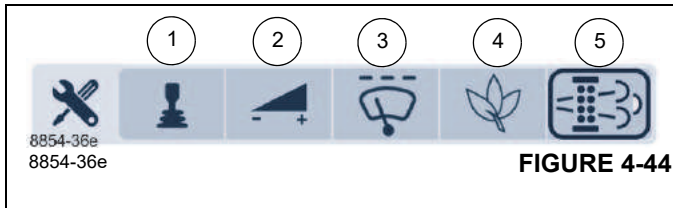

FIGURE 4-44
The Tools Group Menu is made up of the Icons shown in Figure 4-44 that allows the operator to select sub-menus to adjust parameters, set display options, and control functions.
Access a Tools Group Function Screen (Figure 4-44) by doing one of the following:
Using the Jog Dial (5), (Figure 4-22) select one of the Tools Group Function Icons as shown in (Figure 4-44). When selected, the Icon will turn orange. Then press the Jog Dial (5), (Figure 4-22) to select it.